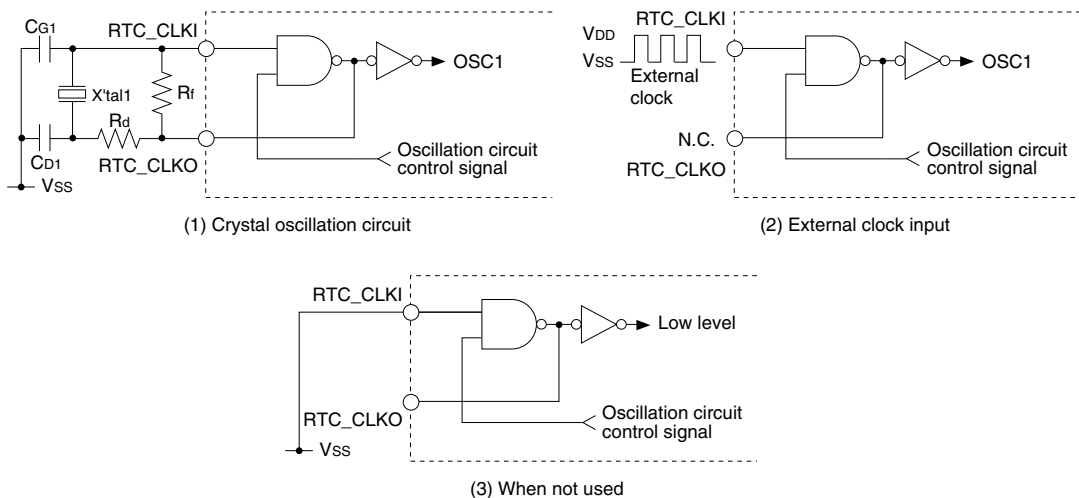

Figure III.1.5.3.1 OSC1 Oscillator Circuit
The OSC1 oscillator circuit accommodates a crystal oscillator and external clock input. The core voltage VDD supplies power for this circuit. Figure III.1.5.3.1 shows the structure of the OSC1 oscillator circuit.
For use as a crystal oscillator circuit, connect a crystal resonator X'tal1 (32.768 kHz, typ.), feedback resistor (R_f), two capacitors (C_{G1} , C_{D1}), and, if necessary, a drain resistor (R_d) to the RTC_CLKI and RTC_CLKO pins and Vss, as shown in Figure III.1.5.3.1 (1).